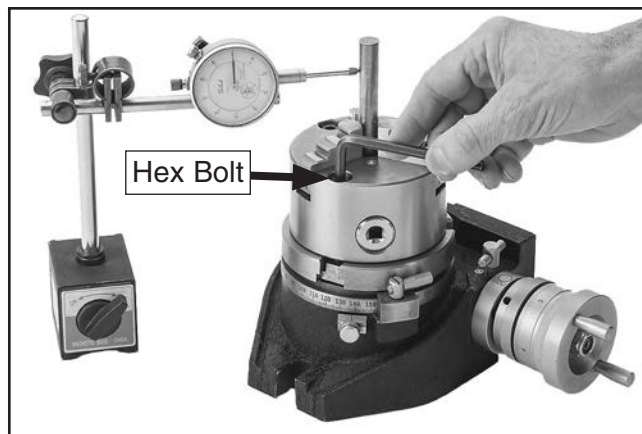

Figure 17. Loosening M6-1 x 60 hex bolts securing chuck.
4. Loosen (3) M6-1 x 60 hex bolts securing chuck to rotary table (see **Figure 17**). Make sure there is a little tension on the bolts so chuck cannot shift on its own.